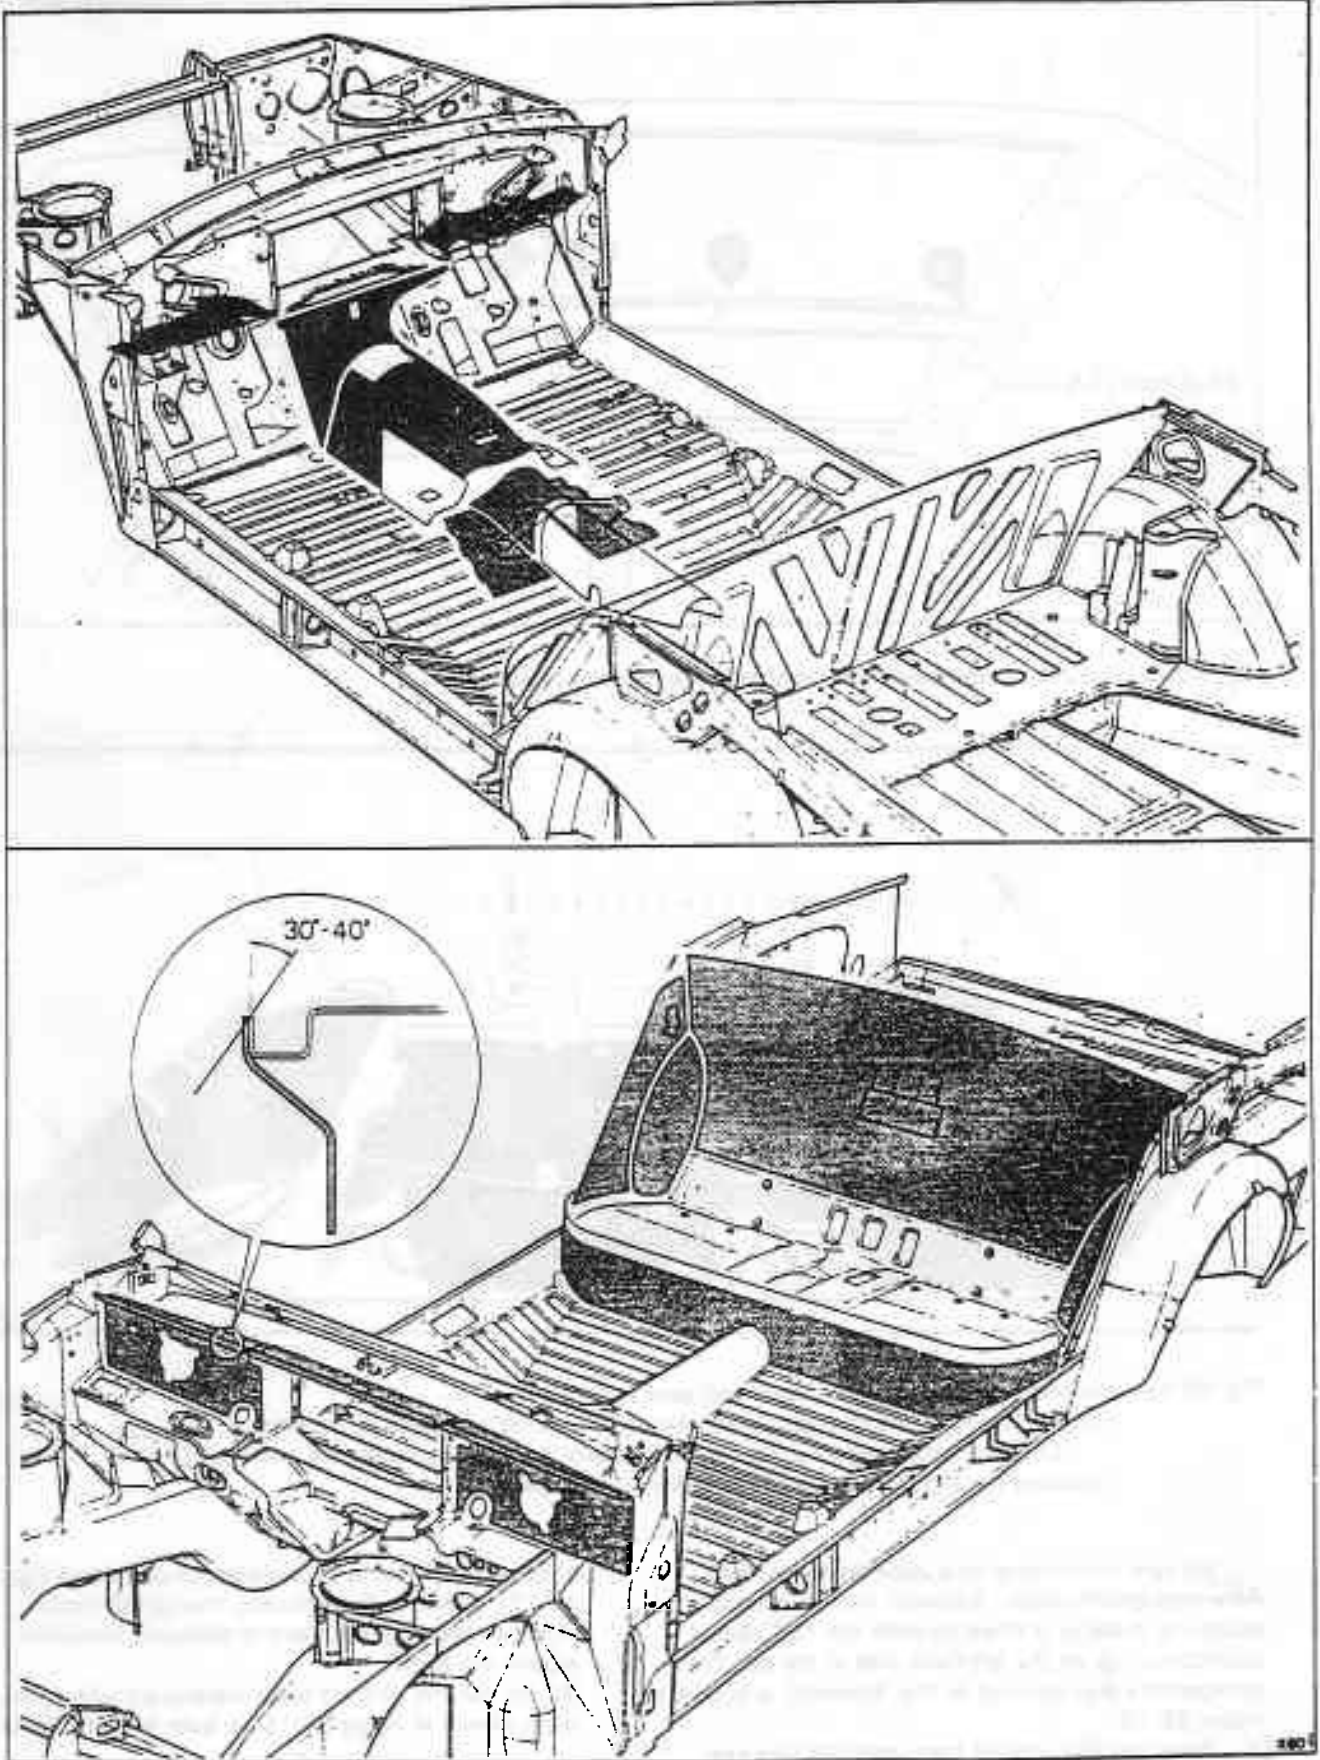

Fig. S8-13 Soundproofing material - engine compartment bulkhead, transmission tunnel, and rear seat areas
Soundproofing material - engine compartment bulkhead, transmission tunnel, and rear seat areas - To remove and fit (see fig. S8-13)
5. Carefully chamfer the top edge of the soundproofing (see fig. S8-13, inset).